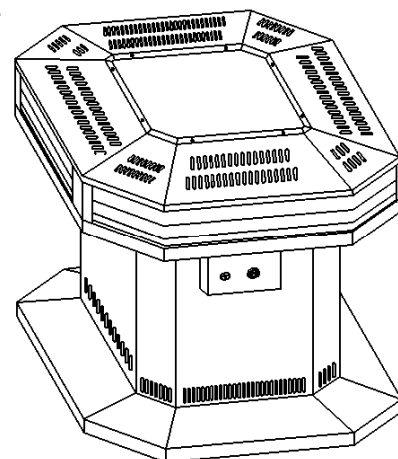

Figure 2- shipping fireplace
3. Remove protective packaging.(See FIG.2)